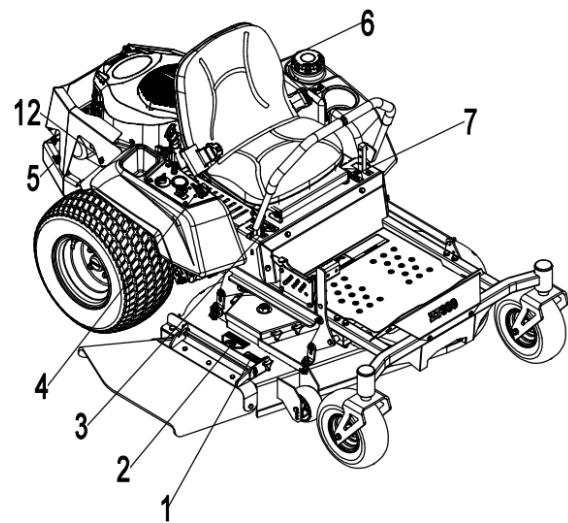
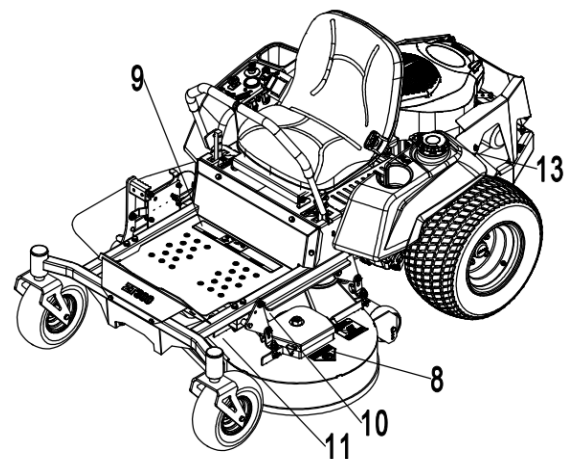

Fig. 1
Fig. 2
- All DANGER, WARNING, CAUTION and instructional messages on your machine should be carefully read and obeyed. Personal injury can result when these instructions are not followed. The information is for your safety and it is important! The safety decals below are on your machine. The position of decals refer to Fig. 1 and Fig. 2.